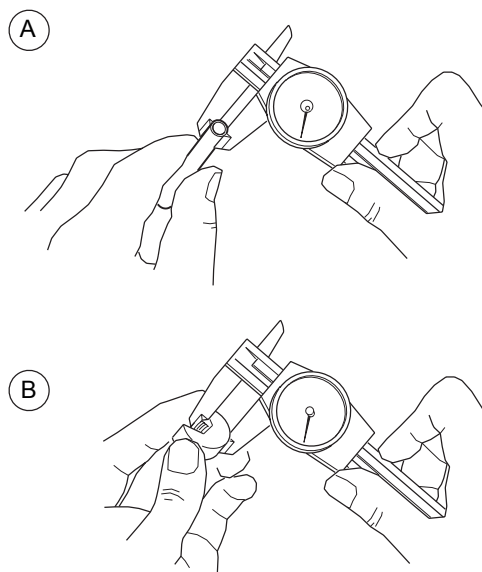

Figure 11 Setting Arc Gap Gage
1. Measure the OD of the work to be welded with a caliper or micrometer and record the value. See Figure 11(A).
- Set the arc gap gage to the value from the table using the provided 3/32 in. hex wrench. Measure from the bottom of the arc gap gage to the top of the adjustment screw. See Figure 11(B).